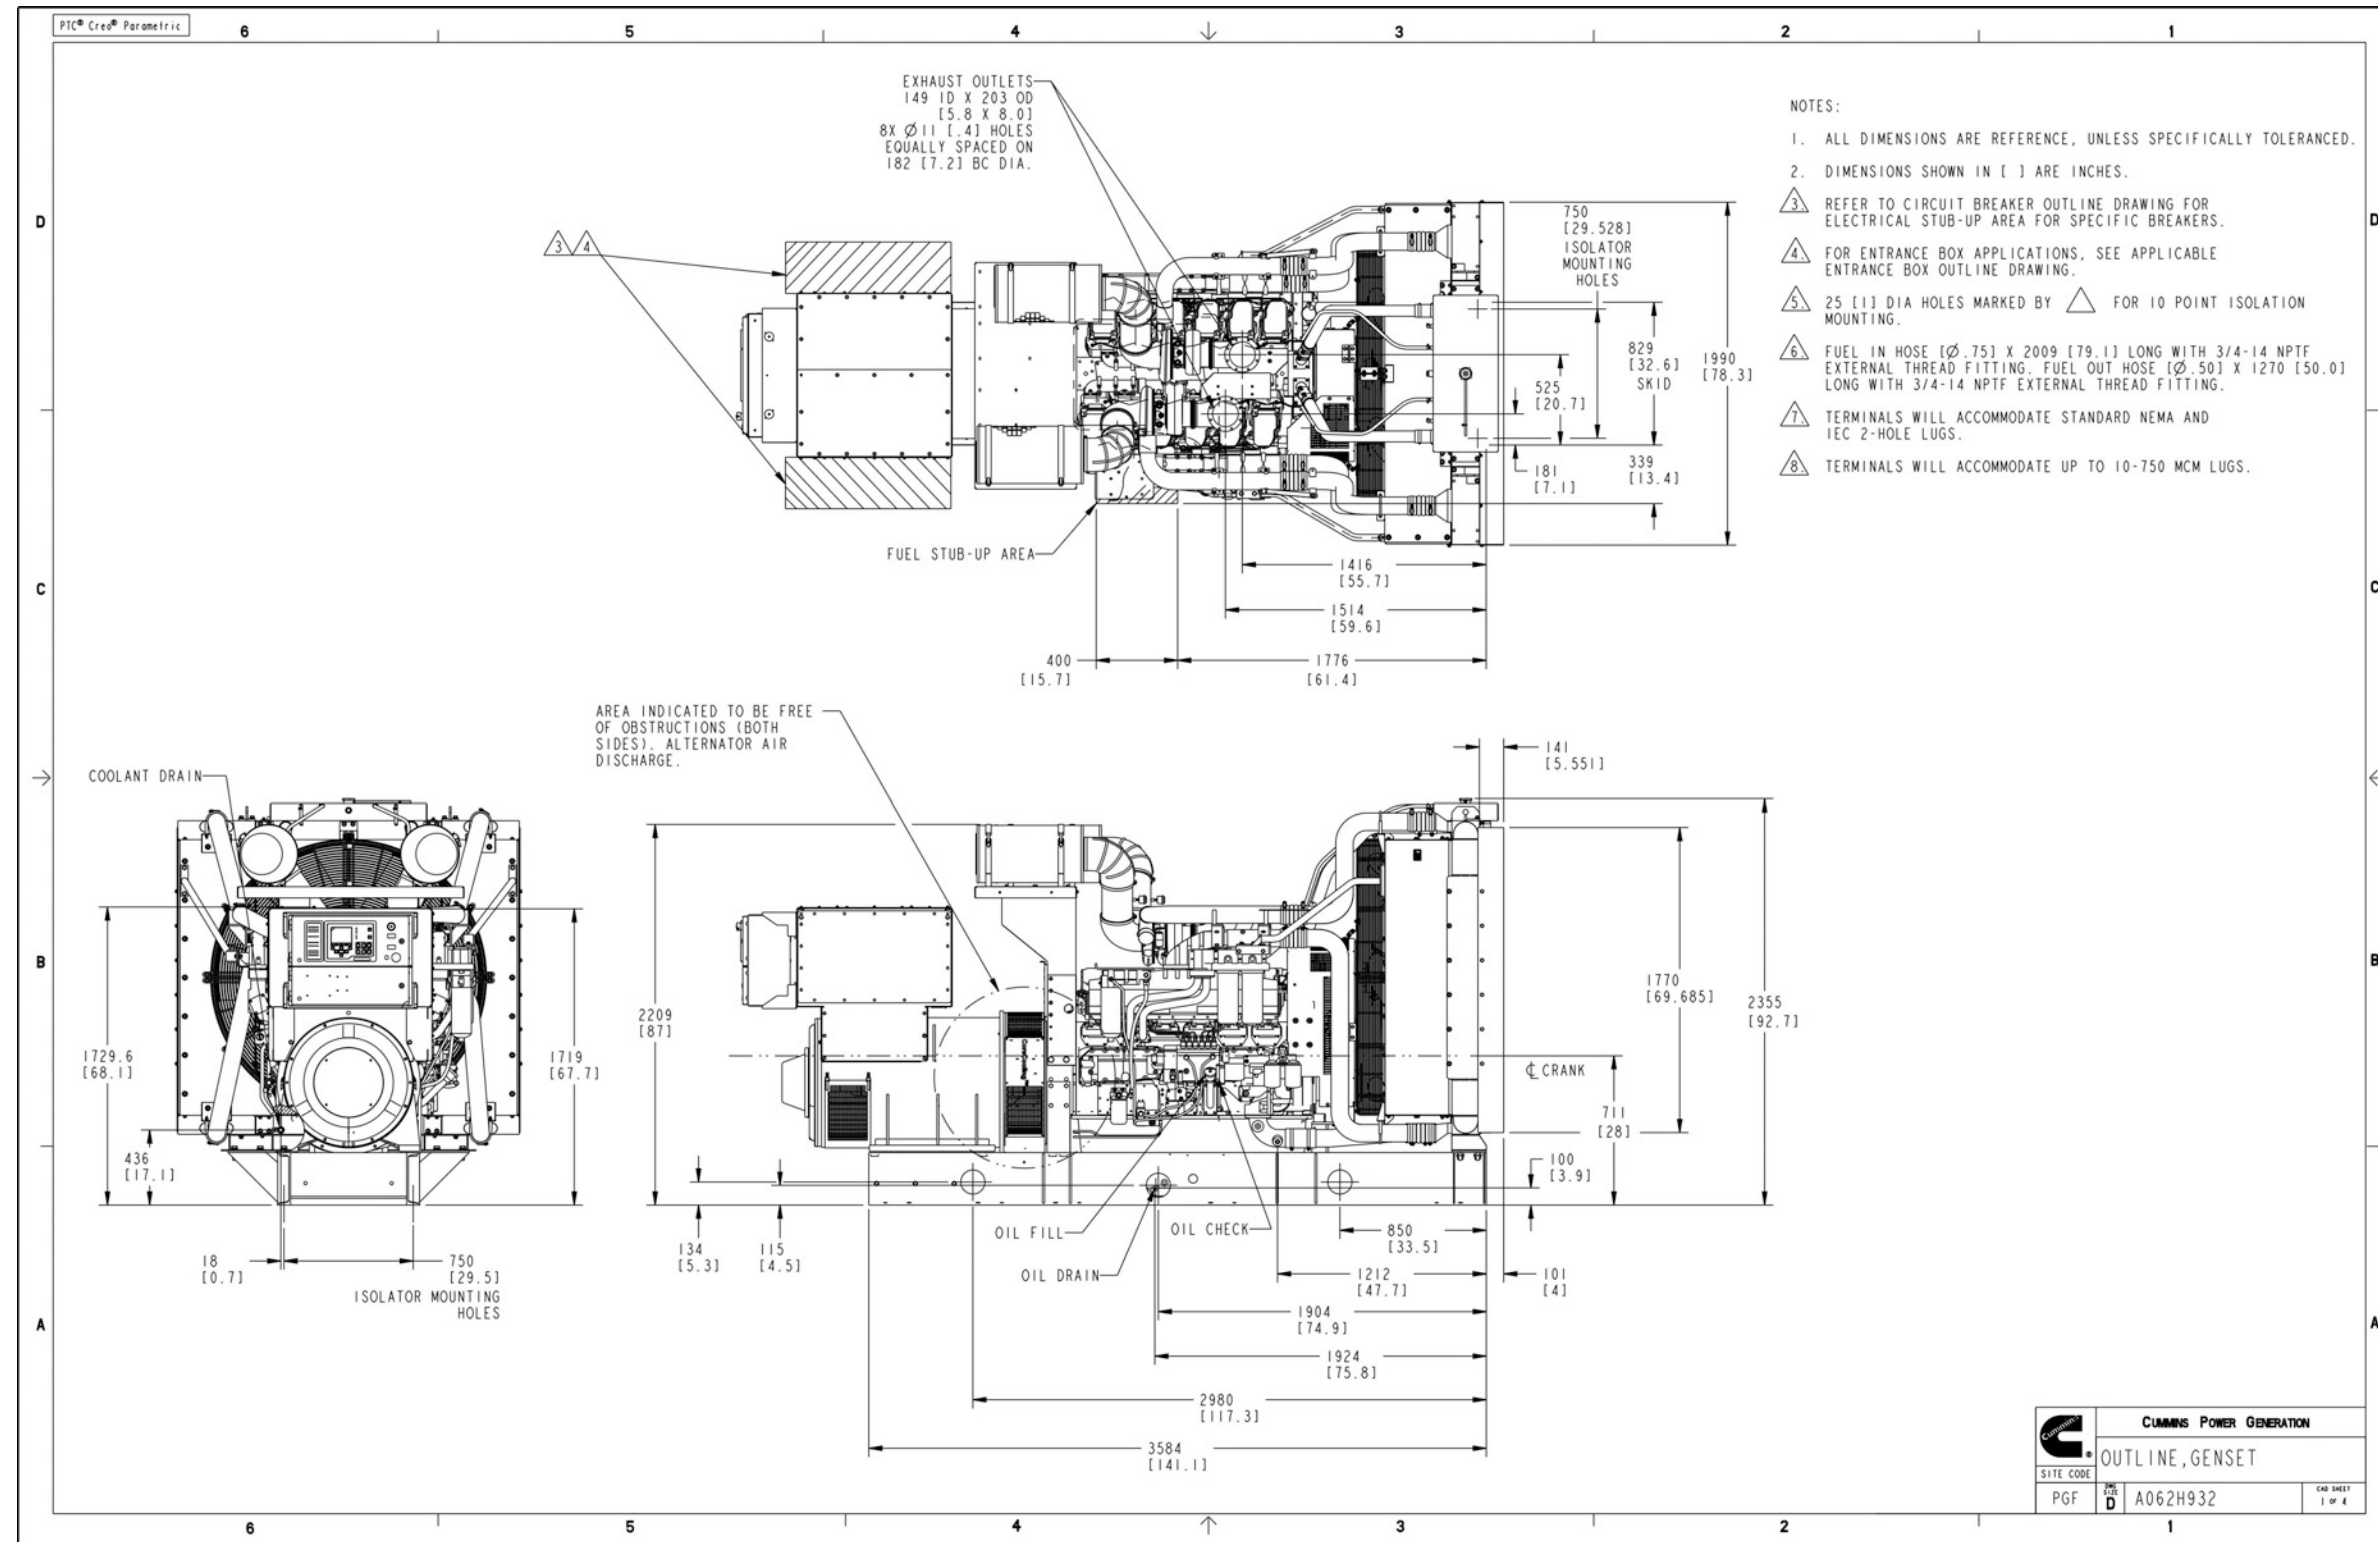

FIGURE 69. GENERATOR SET OUTLINE DRAWING (SET MOUNTED RADIATOR) (SHEET 1)
- Figure 69. Generator Set Outline Drawing (Set Mounted Radiator) (Sheet 1) 135